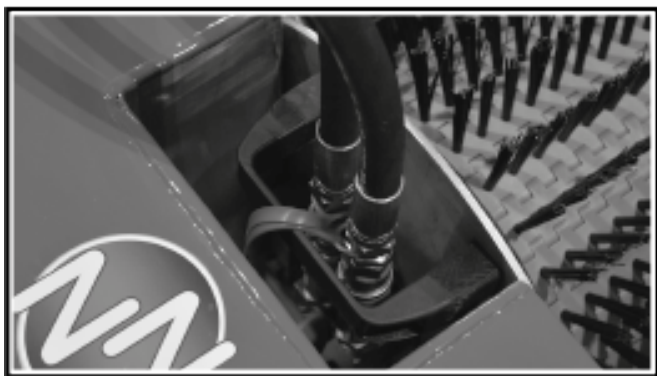

Fig. 10 – Module Hydraulic Motor Connections
1. Slide recovery bank into the skimmer frame. Hydraulic motor and hydraulic connections must be on the same side (Fig. 10).